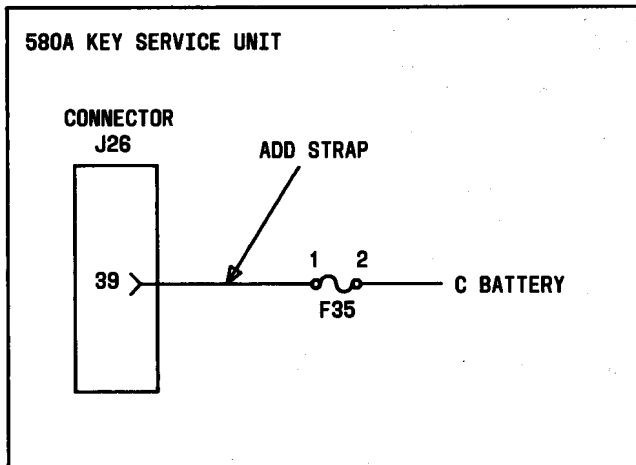

Fig. 46—⚡Modification of 580A KSU for DND⚡
4.104 ⚡Both automatic and manual DND require that the 456-type KTU (voice and tone alerting) be removed from connector J26 of the system KSU and replaced with a 468B KTU. If the KSU is a 580A, add a backplane wire from C battery (fuse 35) to pin 39 of J26 (Fig. 46); this modification is not required in a 580B KSU.⚡